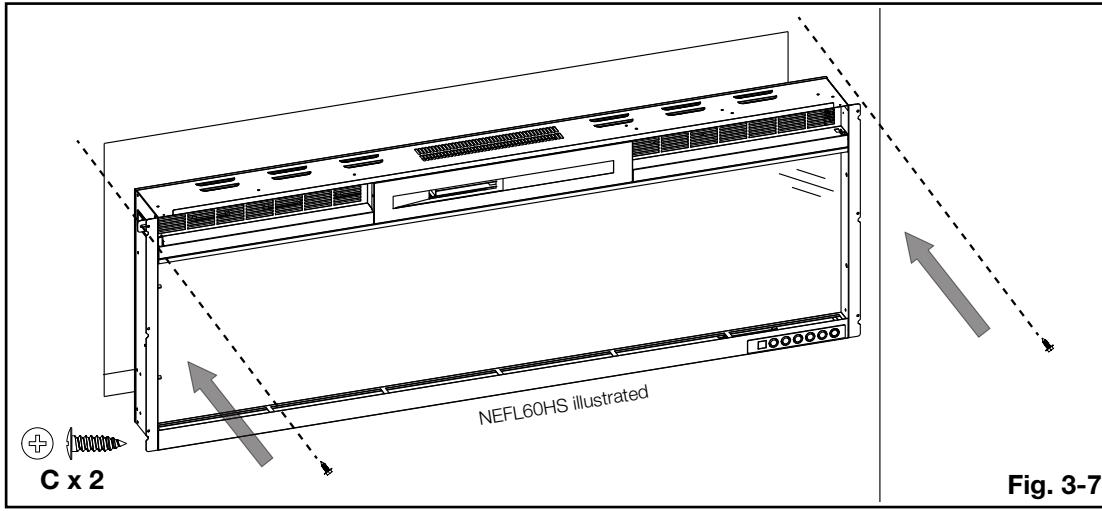

Fig. 3-7
C. Insert the appliance as far into the rough-in frame as possible/desired, and then secure it by installing 2 screws (supplied) through the metal brackets (**Fig. 3-7**).